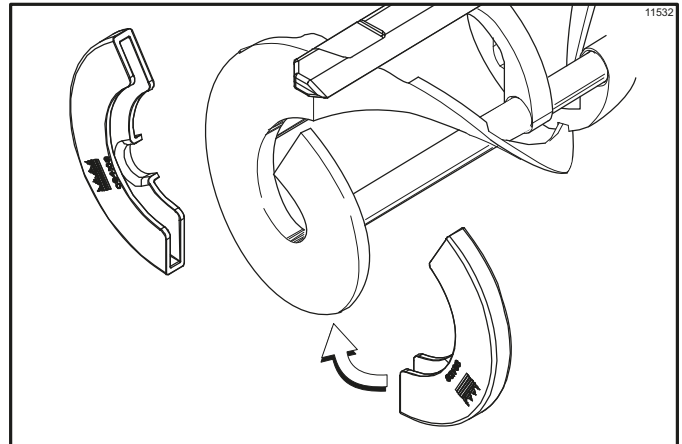

Figure 6-6
10. If the shoes are in good condition, install the beater shoes. (See Figure 6-6.)